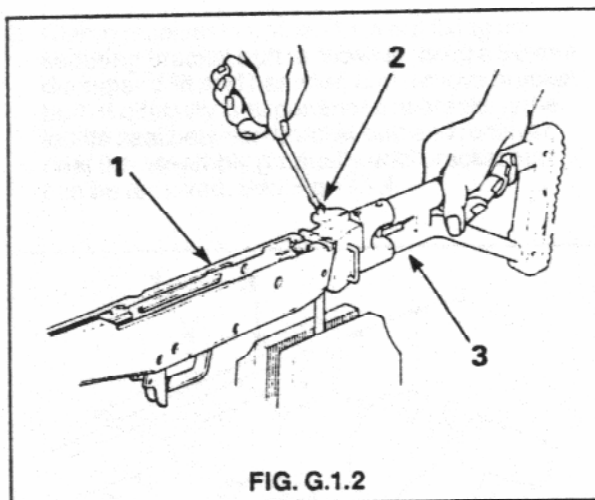
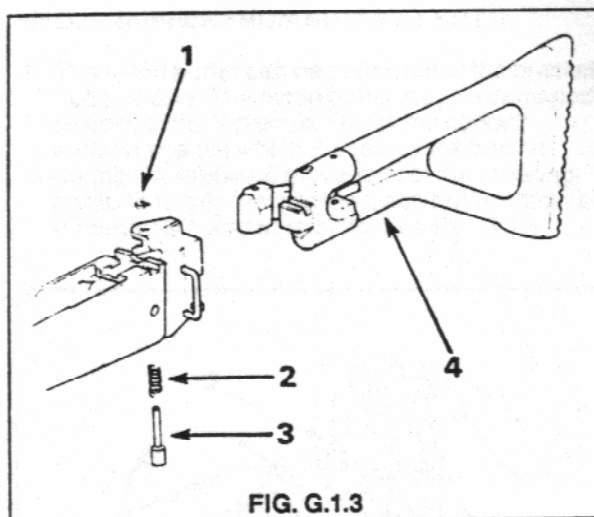

FIG. G.1.2
FIG. G.1.3
2. Clamp a suitable drift in a vice and position bracket butt over the top of drift so that head of connecting pin rests on top of drift. Press down on bracket butt until retaining ring can be removed from pin with a screwdriver or similar tool. Remove pin, spring and butt assembly. See Fig. G.1.2 and Fig. G.1.3.